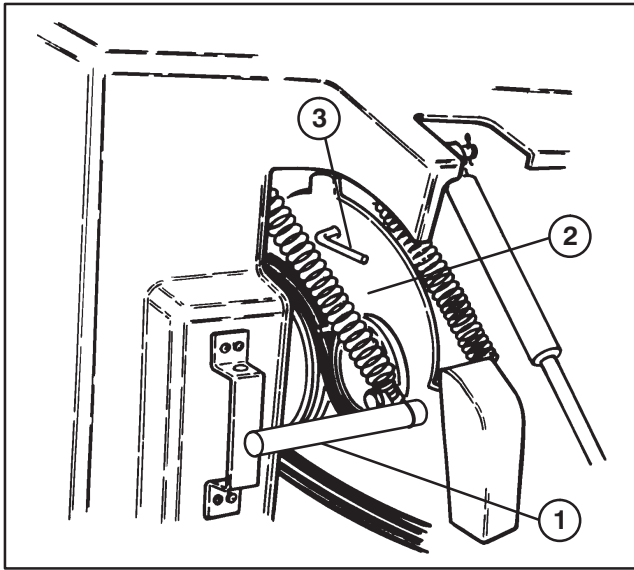

Figure 20
- C. Push down on override lever (Fig. 20) until holes in lever bracket and coring bracket are aligned, then insert pin thru holes.
2. Push down on override lever until holes in lever bracket and coring head are aligned, then insert pin thru holes (Fig. 20).